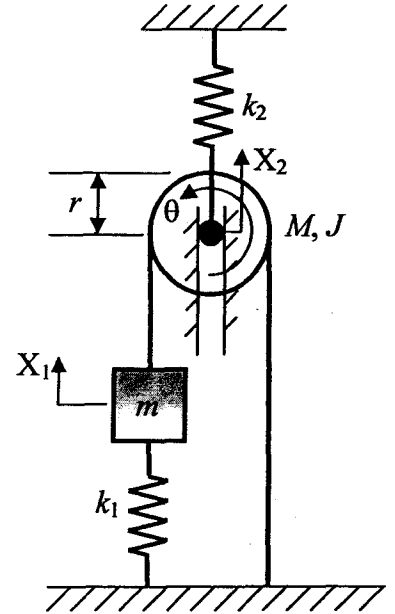

Figure 2
2. In the system shown in Figure 2, the center of the pulley can move along a vertical slot. There is no resistance to pulley's vertical translation and rotational motions. The mass, rotary inertia and radius of the pulley are M , J and r , respectively. There is no slip between the pulley and the rope. Gravity can be neglected.